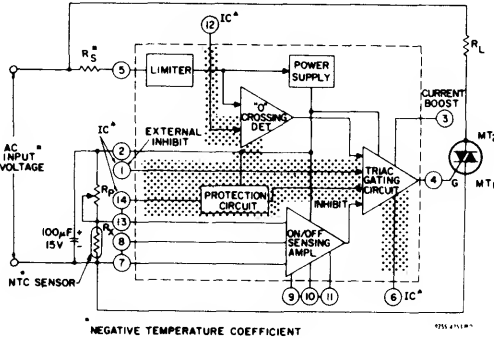

Fig. 1—Functional block diagram of CA3058, CA3059, and CA3079.
• The values given in the Electrical Characteristics Chart at 120 V also apply for operation at input voltages of 24 V, 208/230 V, and 277 V, except for Pulse Duration. However, the series resistor (R_S) must have the indicated value, shown in the chart in Fig. 1, for the specified input voltage.